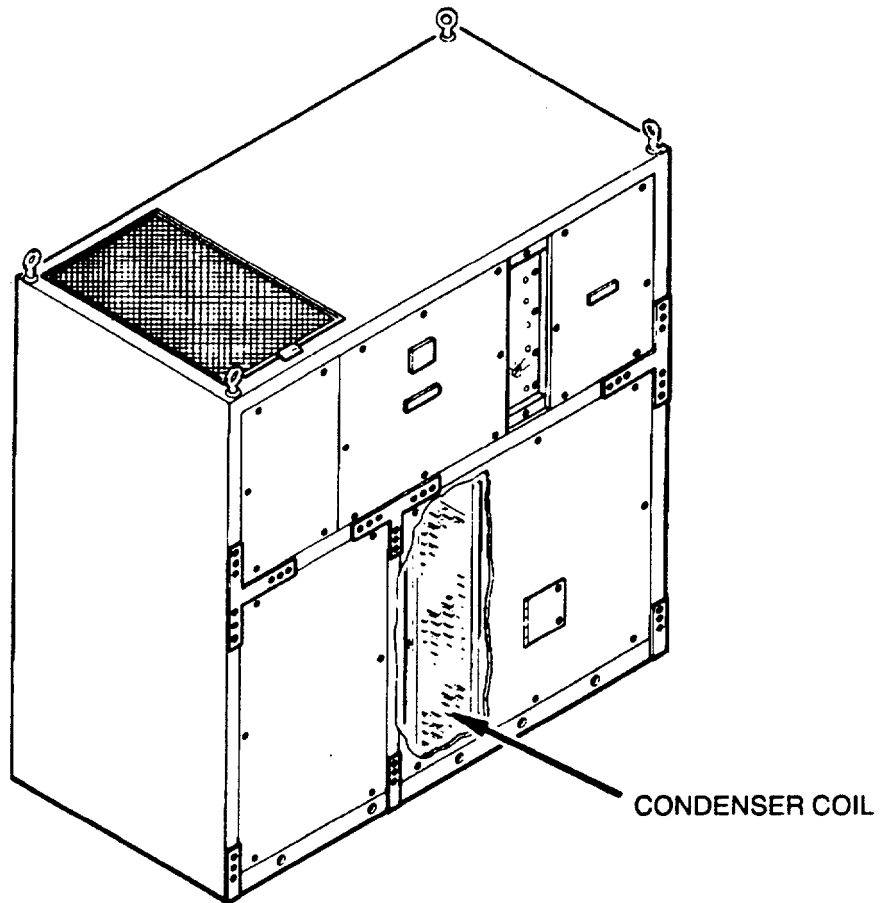

Figure 4-90. Condenser Coil Cleaning
1. Check for accumulated dirt. Clean if dirt is evident (see Figure 4-90).